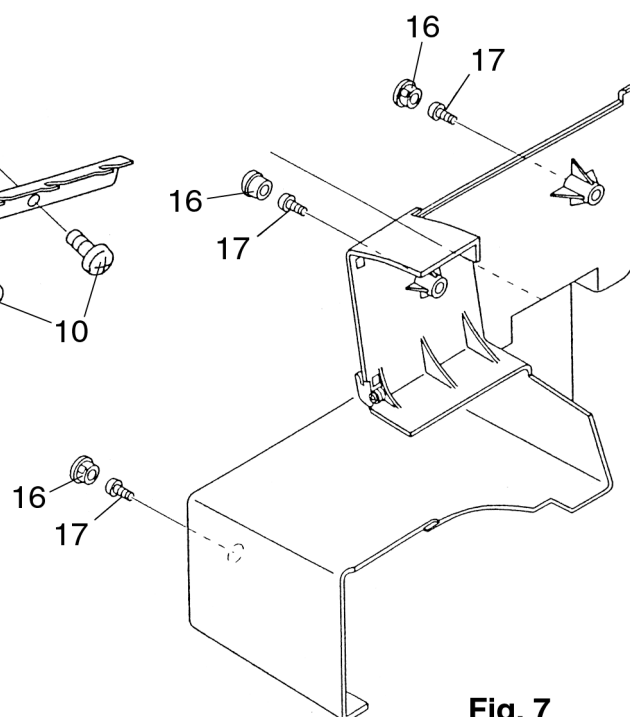

Fig. 7
- Remove the covers 16 (fig. 7).